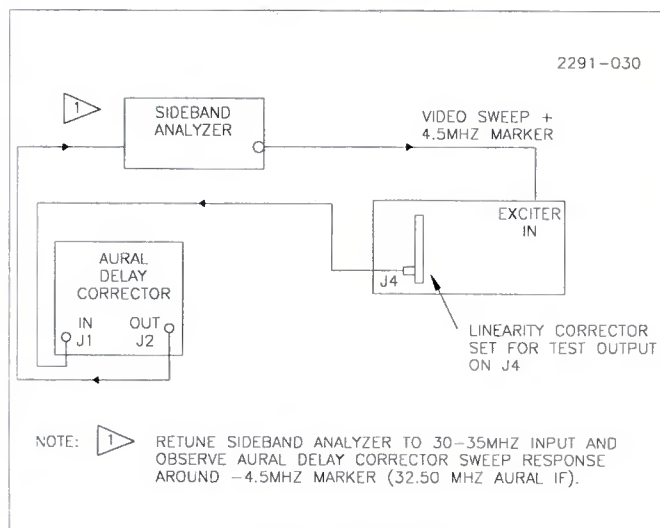

Figure 5-17. Alternate Sweep Method
- If an RF sweeper with an accurate 32.50 MHz marker is not available, then an alternate method of sweep alignment is shown in Figure 5-17. This method uses a visual sideband analyzer setup in the normal manner except the exciter visual IF output is fed to the aural delay corrector for sweep response alignment. The 4.5 MHz marker will